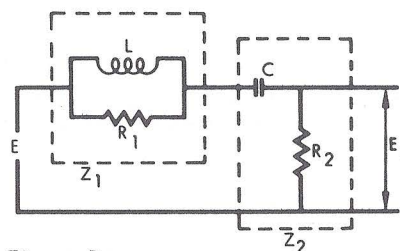
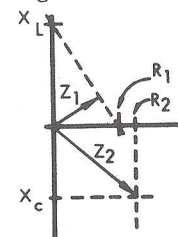

Figure 9c
Figure 9d
b. The circuit to be analyzed is shown in Fig. 9c.
The parallel RL and the series RC combinations of Fig. 9c have been grouped as lumped impedances Z_1 and Z_2 respectively. These are solved for as previously discussed in sections 8.30 and 8.10. Let $E = 112$ volts at 2.3 Kc, $L = 177$ mh, $R_1 = 1600 \Omega$, $C = 0.37 \mu\text{f}$, and $R_2 = 2200 \Omega$. Find the voltage developed across R_2 . Using the method of finding the parallel impedance of an RL combination $Z_1 = 1355 \Omega \angle +32.0^\circ$. Using the method for RC series combination $Z_2 = 2890 \Omega \angle -40.5^\circ$. These are shown in Fig. 9d. To add those two impedances ($Z_1 + Z_2$), they should be put in the complex form $\alpha + jb$. In either case it only requires the solution of a right angle triangle by the technique in section 6.10. Solving for Z_1 , the hypotenuse 1355 is placed at $\sin 32.0^\circ$. Set the hairline to 1355 on D and move the slide until 32.0° on S is at the hairline. Move the hairline to 32.0° on T and read 1150 on D and at the right index of C, on D read 720. Therefore, $Z_1 = 1150 + j720$. To solve for Z_2 , set 2890 on D to 40.5° on S. Move the hairline to 40.5° on T and read 2200 on D. At the left index of C read 1875 on D. Therefore, $Z_2 = 2200 - j1875$. The equivalent circuit of Z_1 and Z_2 is that of two impedances in series. To find the sum of these two add the real and the imaginary parts of each respectively, i.e., $Z_0 = (1150 + 2200) + j(720 - 1875) = 3350 - j1160$. Since we now want to find the current, this will